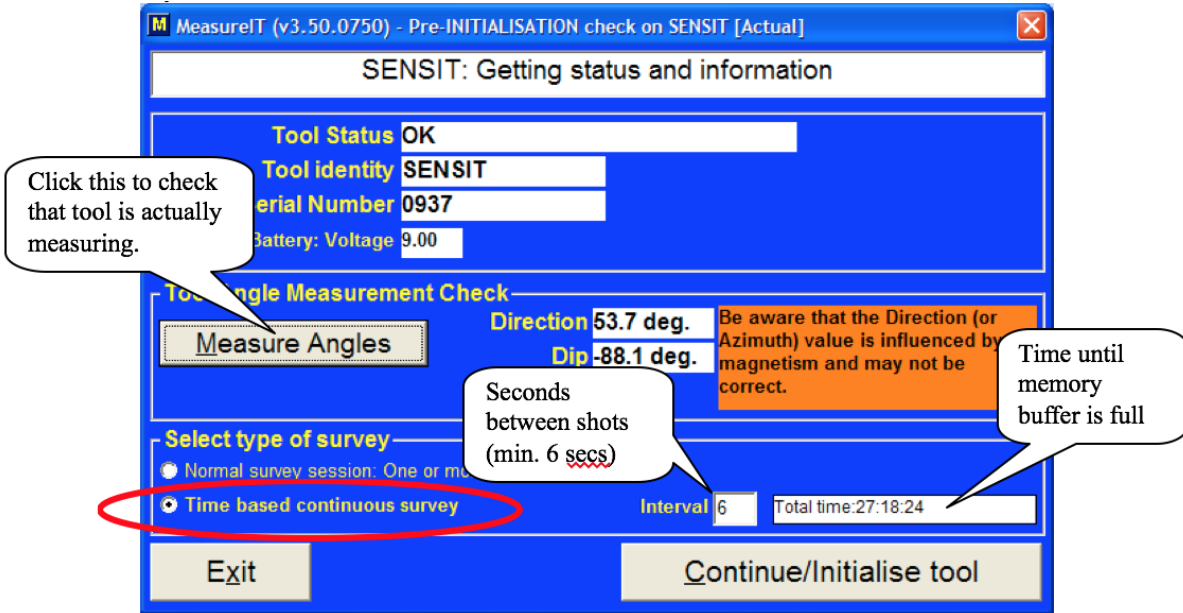

Figure 6 Tool check/survey type selection screen
4. Click the radio button for Time-based continuous survey as indicated in **Figure 6**. Select **Continue/Initialize tool** when finished.